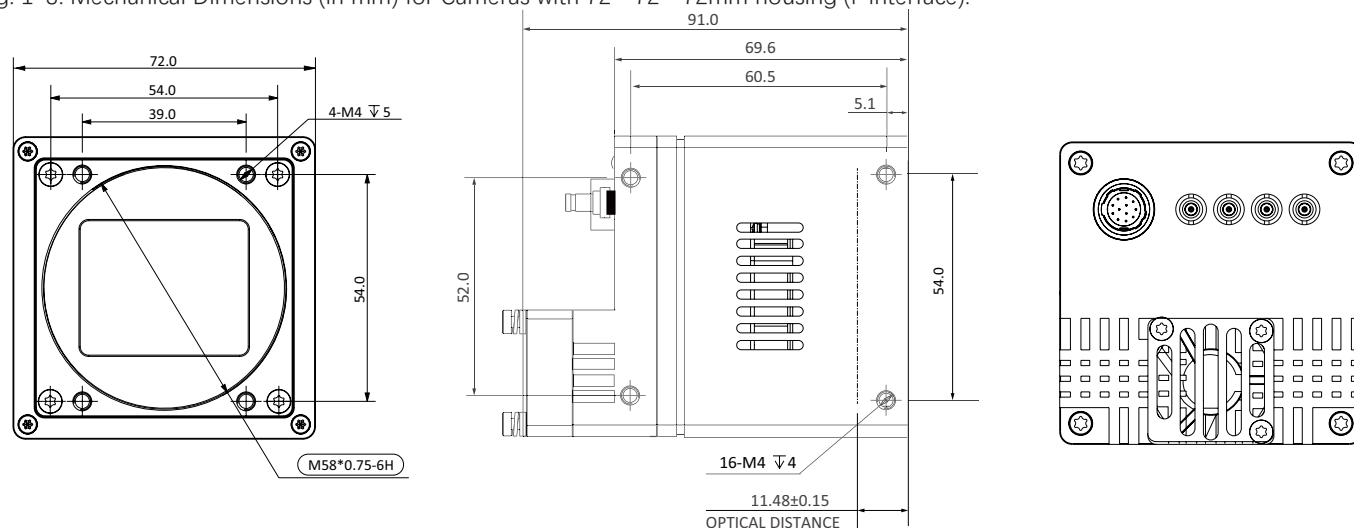

Fig. 1-4: Mechanical Dimensions (in mm) for Cameras with 72 * 72 * 69.6mm housing (M58 interface).
- Fig. 1-4: Mechanical Dimensions (in mm) for Cameras with $72 \times 72 \times 69.6$ mm housing (M58 interface).